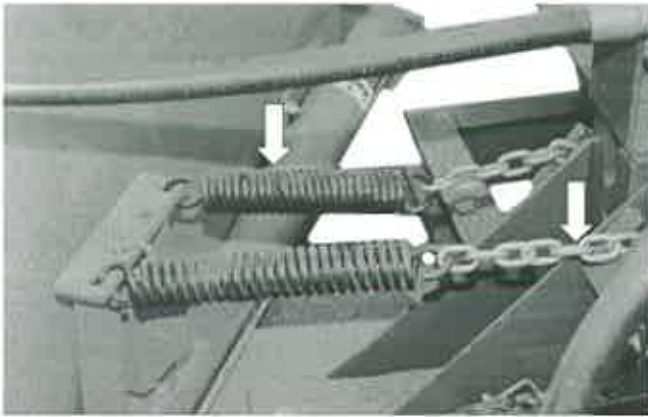

figure 11
3. Assemble the spring-chain assembly/assemblies. Attach the spring end(s) to the brush head upright. Then place the chains in the slots on the swing assembly upright. Figure 11 shows spring-chain assemblies installed.